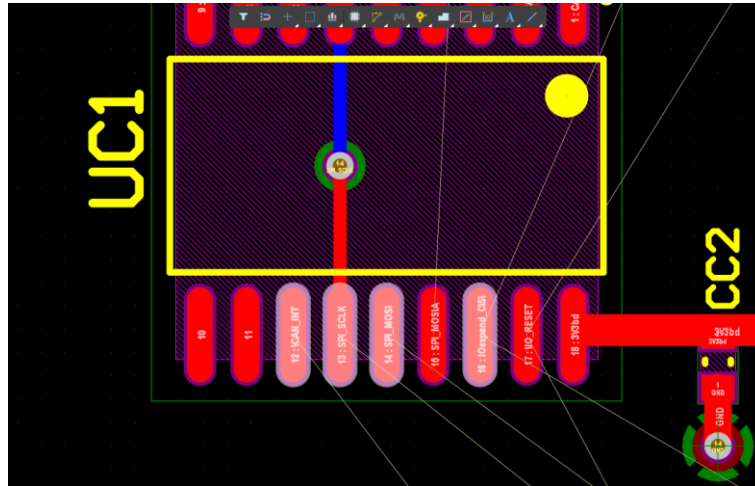

Figure 13. UC1 pads to be used for Multi-Trace routing
33. Hold **Shift** and click on Pads 12, 13, 14, 16 to select multiple pads as shown in Figure 13.